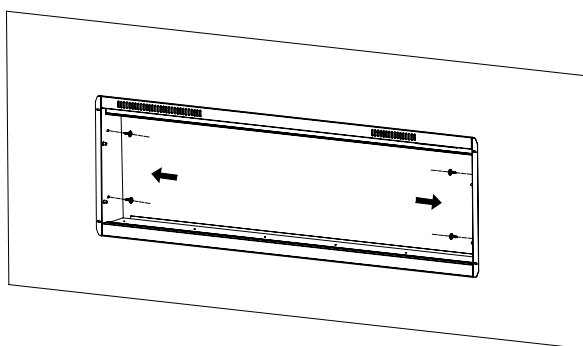

Figure. 3-3
- ③ Secure the fireplace using four wood screws (A) through the interior side mounting holes shown (Fig. 3-3). Alternatively, the appliance may be secured using the mounting holes on the front bracket.
- ④ Reattach the interior side panel covers removed in step 1.
- ⑤ Install the desired ember bed media into the ember bed. Reinstall the front glass panel and front trim. (See ember bed media installation section for details.)